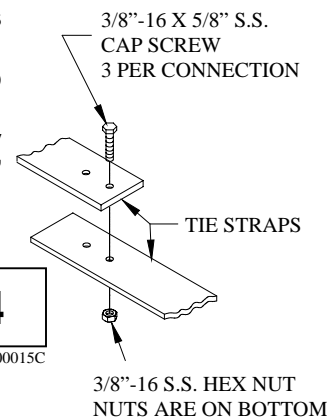

FIGURE 5
Step 6: Dig down and place a 4" X 8" X 16" cap block at the end of each bottom beam as shown in Figure 5. Level the bottom rail with a transit and adjust to be certain it is level.